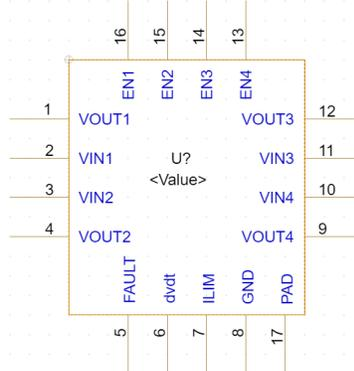

Figure 1. PSpice Model Block
1. Create a symbol in OrCAD with the 17 pins defined in both the datasheet and Figure 1 above.